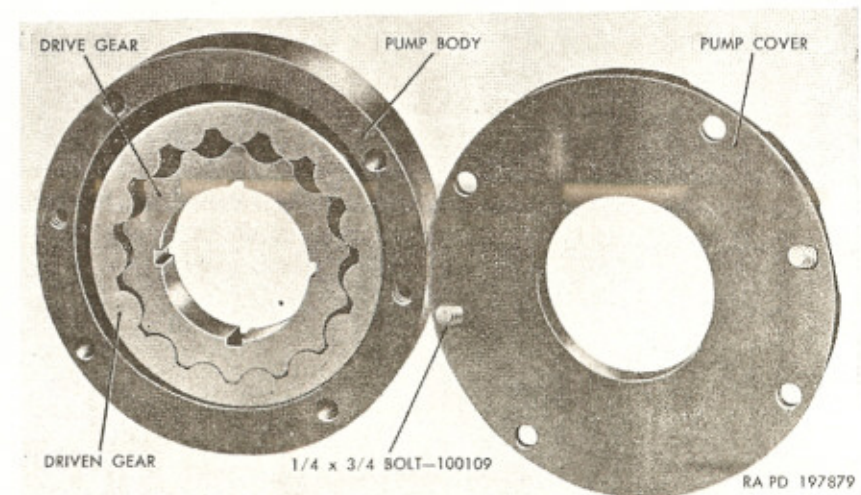

Figure 158. Reduction unit oil pump components.
a. Remove two bolts and lockwashers attaching pump cover to pump body; then remove pump cover (fig. 158).